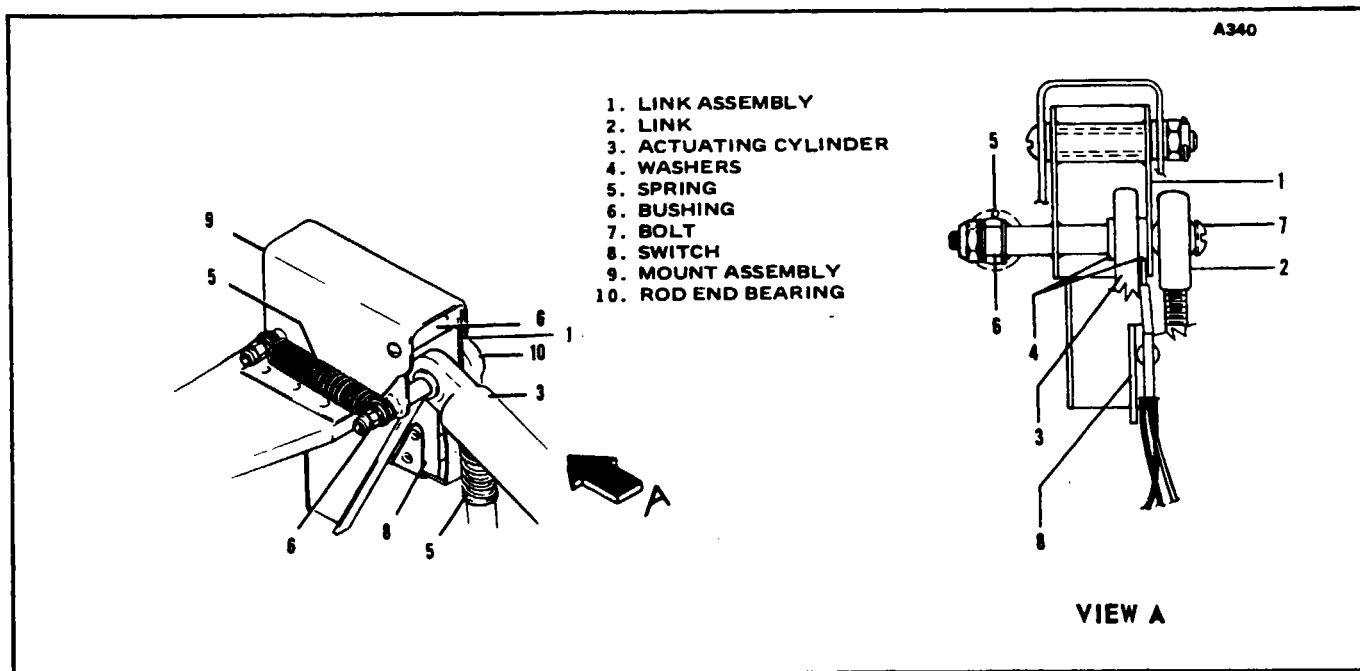

Figure 6-9. Nose Gear Actuating Cylinder Installation
6-21. INSTALLATION OF NOSE GEAR ACTUATING CYLINDER. (Refer to Figure 6-9.)
- a. Refer to Paragraph 6-16, d. Remove bolt (7) far enough to position clevis end of actuating cylinder (3) in the link assembly (1). Reinsert bolt with callouts (1) thru (6) arranged as illustrated in Figure 6-9.